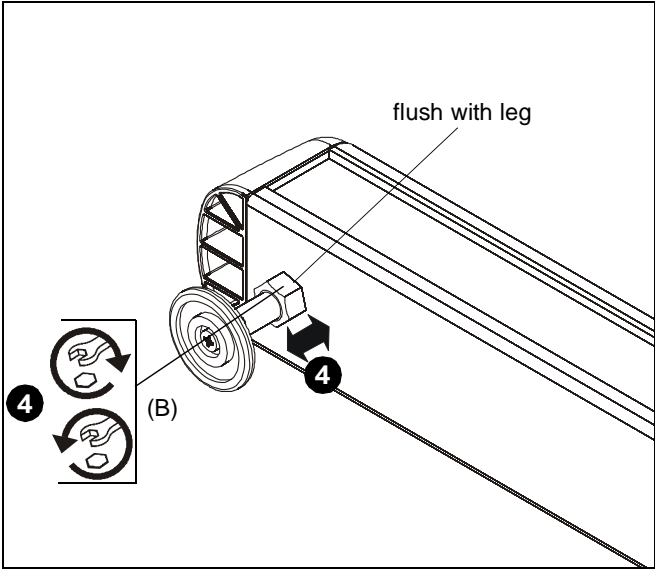

Figure 4
4. After all feet (A) have been installed, use hex nuts (B) to adjust height level of each leg. (See Figure 4)
IMPORTANT ! : Hex nuts (B) must be flush with bottom of the legs of cart! (See Figure 4)